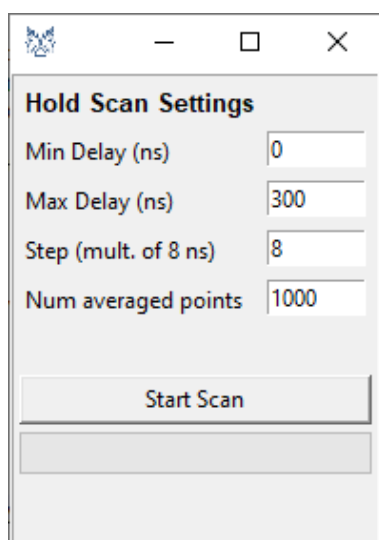

Fig. 10.39: "Hold Delay Scan" window.
3. Click on the Hold Delay Scan button in the Janus Icon Bar . A window similar to that in Fig. 10.39 will appear and the values of the following parameters should be set by the user: